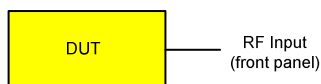

Fig. 1 Preparation for level detection
- Connect the DUT to the RF input of the spectrum analyzer (see Fig. 1).